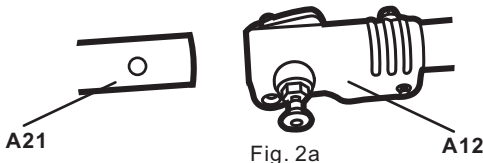

Fig. 2a
2. Align the extension (A21) with the clamp (A12) so that the hole in the extension is orientated to the locking pin. (See Fig. 2a)